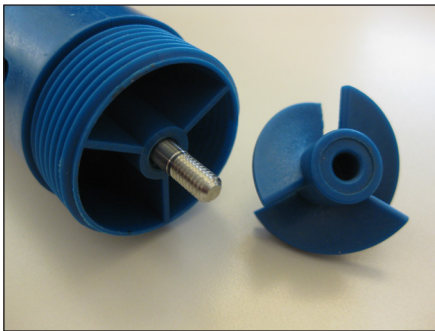

Figure 11
7. Thread the diffuser (item 17) completely onto the bottom of the outer tube (item 16). Hand tighten. Thread the impeller onto the shaft by hand. While holding the half coupling with the other hand, turn the impeller clockwise (right hand thread). *See figure 11*. Install the diffuser cover (item 19) onto the diffuser turning counter clockwise (left hand thread). Hand Tighten. *See Figures 12 & 13*.